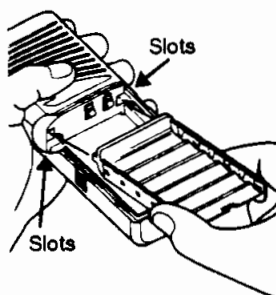

Figure 12.
7. Replace the battery tray. Align the tabs on the top and sides of the battery tray, as shown in Figure 12, with the slots in the radio.